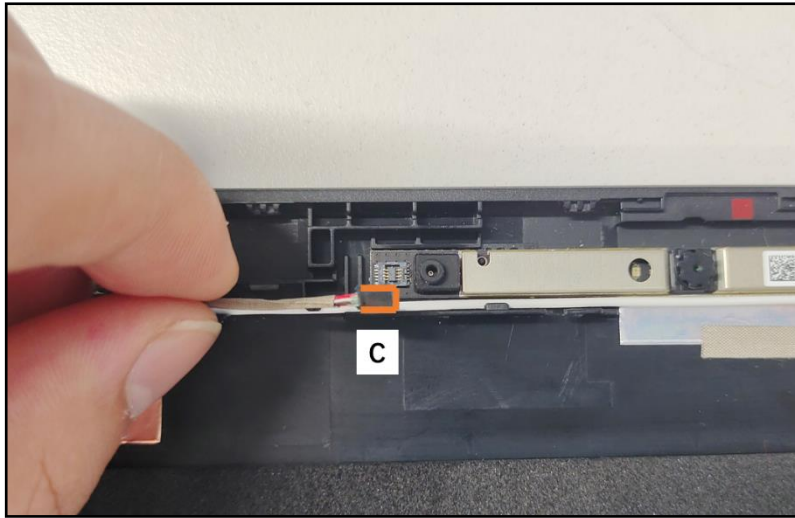

Figure 3-60. eDP Cable Removal
2. Disconnect the EDP cable from the camera module connector (C) (Figure 3-60).